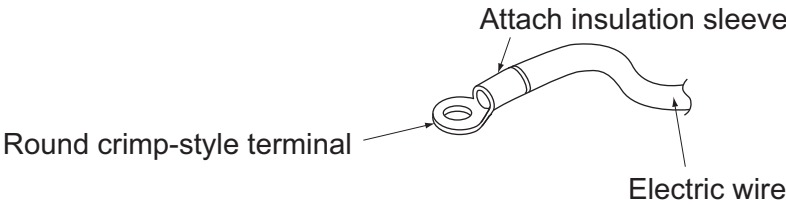

Fig. 23
**Use a round crimp-style terminal for connection to the power supply terminal block. (Refer to Fig. 23)**